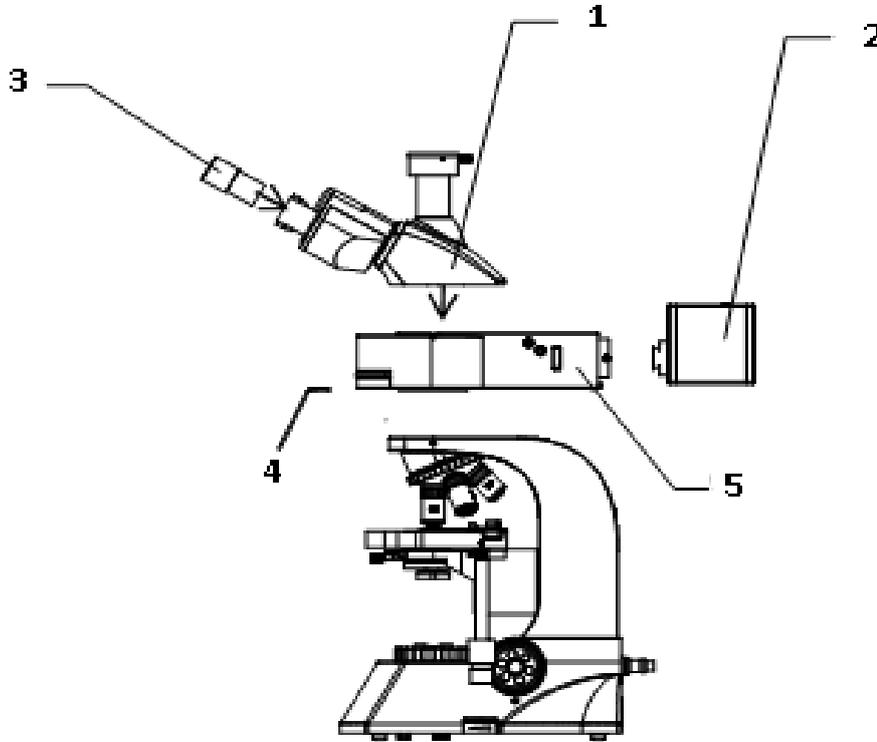

Fig. 1
Most parts are already mounted on the microscope. Only two parts are packed separately. The microscope head (fig. 1 number 1) and the fluorescence illuminator (fig. 1 number 2).
4. Install the eyepieces into the eyepiece tubes if this is not already installed (fig. 1 number 3).